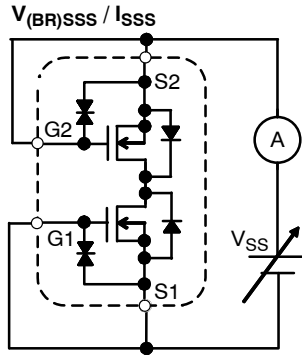

Figure 1. Test Circuit 1
| Source to Source Breakdown Voltage          | V (BR)SSS | I S = 1 mA, V GS = 0 V (Figure 1)                              | 20   | –    | –    | V    |
| Zero-Gate Voltage Source Current            | I SSS     | V SS = 20 V, V GS = 0 V (Figure 1)                             | –    | –    | 1    | μA   |